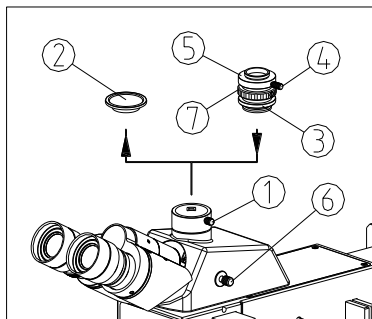

Fig.39
- (1) Loosen the lock screw① of trinocular head, and take out the dust-cover② (See Fig.39).
- (2) Take down the dust-cover of the TV adapter③. Insert the TV adapter into the trinocular head as shown in the figure and screw down the lock screw①.
- (3) Loosen the lock screw④ of the TV adapter. Take down the vidicon interface (C type) ⑤ from the TV adapter, and screw into the CCD or vidicon. Then install the interface into the TV adapter, and screw down the lock screw④.
- (4) For binocular observation, pull the light path selecting pole⑥ to the outmost, then observe CCD image when the image is clear. If the image is unclear, rotate the adjustment tube⑦ for focusing until it is clear.